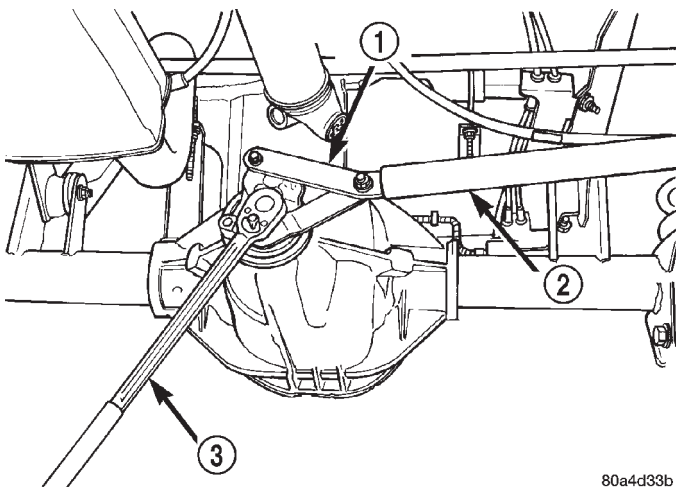

Fig. 46 Tightening Pinion Nut-Typical
(14) Using yoke holder 6958 and a torque wrench set at 474 N·m (350 ft. lbs.), crush collapsible spacer until bearing end play is taken up (Fig. 46).